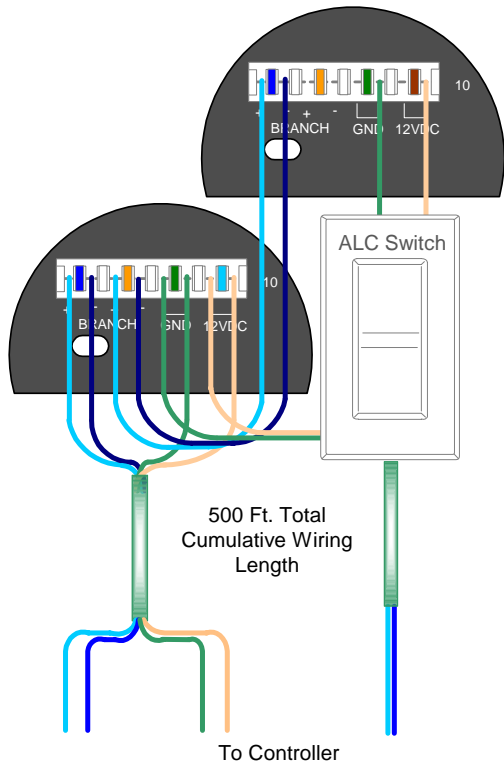

Figure 6. Parallel Switch Wiring Limitation
to the lighting controller. Connection Point 10 provides additional connections for cascading additional Hubs. The maximum cable distance between the ALC Enhanced Branch Hub and the lighting controller should not exceed 1000 ft. Up to four(4) Hubs may be connected to each controller ALC branch. The wiring distance of each Hub from the controller should not exceed 1000 ft. If ALC switches are connected directly in parallel with the Hub to the controller, the total cumulative branch wiring length should not exceed 500 ft. (see *Figure 6*).